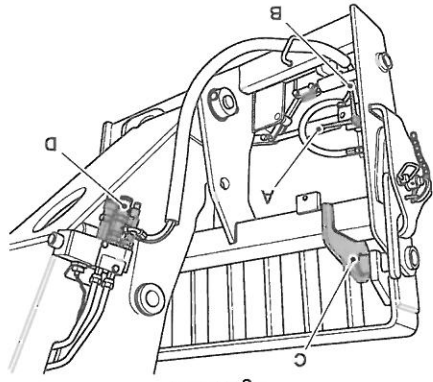

Figure 237.
6. If installed, move the lever of the hydraulic pin locking isolation valve to the horizontal position. Refer to Figure 237.
7. Engage the attachment. Refer to Figure 237.
11. If installed, move the lever of the hydraulic pin locking isolation valve to the vertical position, in this position the locking pins are isolated and the auxiliary circuit is active. Refer to Figure 237.
12. If the attachment is hydraulically operated, connect the hose(s) to the couplings. Refer to Figure 237. Refer to: Connecting/Disconnecting Hydraulic Hoses (Page 214).
3. If the attachment is hydraulically operated, disconnect the hose(s) from the couplings. Refer to Figure 237. Refer to: Connecting/Disconnecting Hydraulic Hoses (Page 214).
4. If installed, move the lever of the hydraulic pin locking isolation valve to the horizontal position. Refer to Figure 237.
7. Lower the boom slowly to withdraw the carriage from the attachment hook plates. Refer to Figure 237.
12. If installed, move the lever of the hydraulic pin locking isolation valve to the vertical position, in this position the locking pins are isolated and the auxiliary circuit is active. Refer to Figure 237.